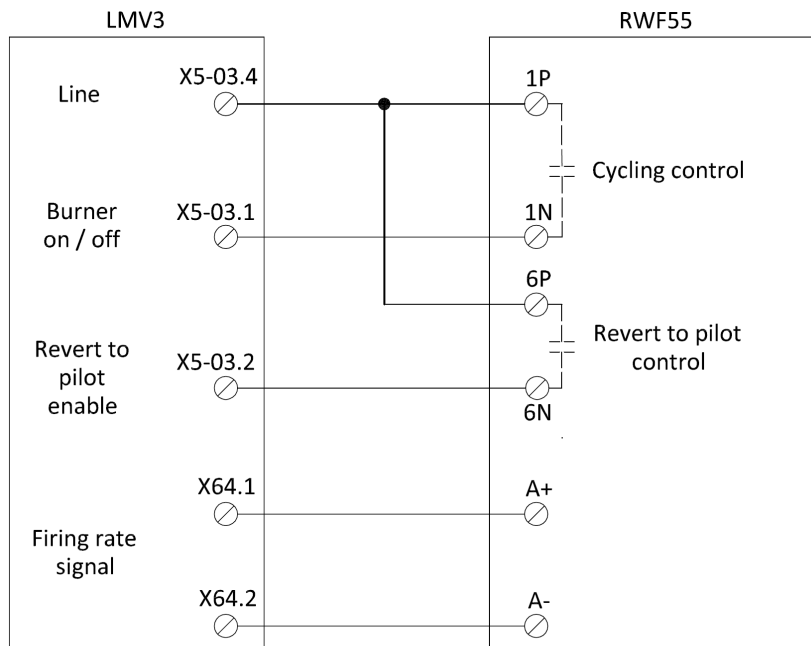

Figure 12: LMV3 / RWF55 Revert to Pilot Wiring
1. Wire the LMV3 and RWF55 load controller as shown below in Figure 12.